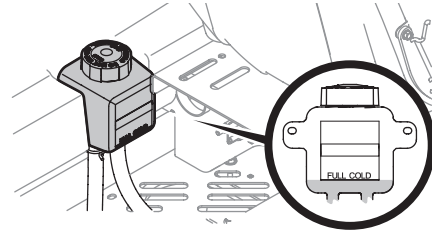

Figure 47
1. Pivot the operator's seat forward and clean the reservoir cap and the area around the cap to prevent debris from contaminating the transmission oil (Figure 47).
2. Turn the reservoir cap counter-clockwise to remove, then check the oil level in the reservoir. Oil should be visible at the bottom of the cup, but the oil level must NOT be above the "FULL COLD" line (Figure 47). DO NOT FILL THE RESERVOIR.